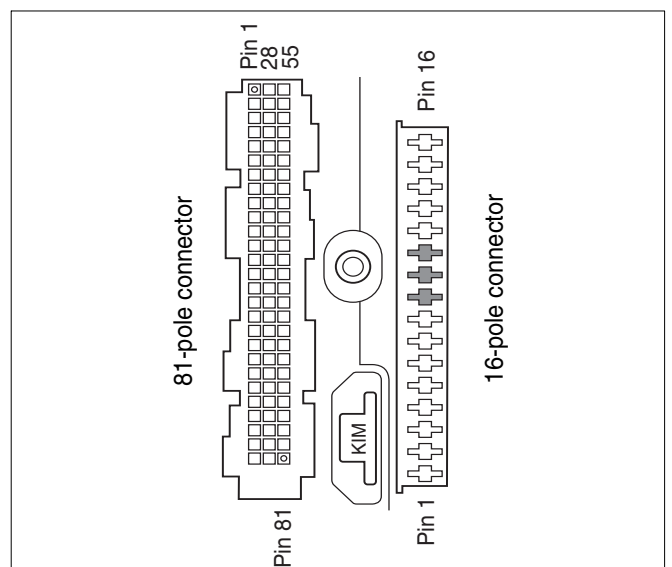

Fig. 49 UBA3 installation base
- Test the fan unit supply cord to make sure that there is no short circuit in it and that it is not broken anywhere (see fig. 49 and fig. 25 on page 26).